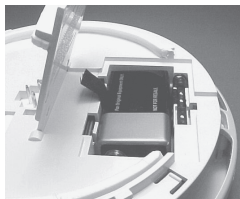

FIGURE 5
5. When installing the battery, press the battery reminder finger down into the battery compartment and install the battery (see figure 5).